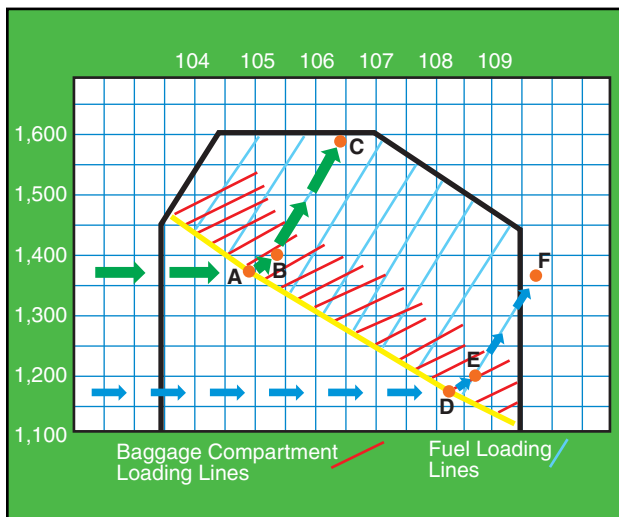

Figure 7-6. Loading chart illustrating the solution to sample problems 1 and 2.
You can determine if a helicopter is within weight and CG limits using a loading chart similar to the one in figure 7-6. To use this chart, first subtotal the empty weight, pilot, and passengers. This is the weight at which you enter the chart on the left. The next step is to follow the upsloping lines for baggage and then for fuel to arrive at your final weight and CG. Any value on or inside the envelope is within the range.
Determine if the gross weight and center of gravity are within allowable limits under the following loading conditions for a helicopter based on the loading chart in figure 7-6.
1. Follow the green arrows in figure 7-6. Enter the graph on the left side at 1,375 lb., the subtotal of the empty weight and the passenger weight. Move right to the yellow line. (point A)
Follow the blue arrows in figure 7-6, starting at 1,175 lb. on the left side of the graph, then to point D, E, and F. Although the total weight of the helicopter is well below the maximum allowable gross weight, point F falls outside the aft allowable CG limit.